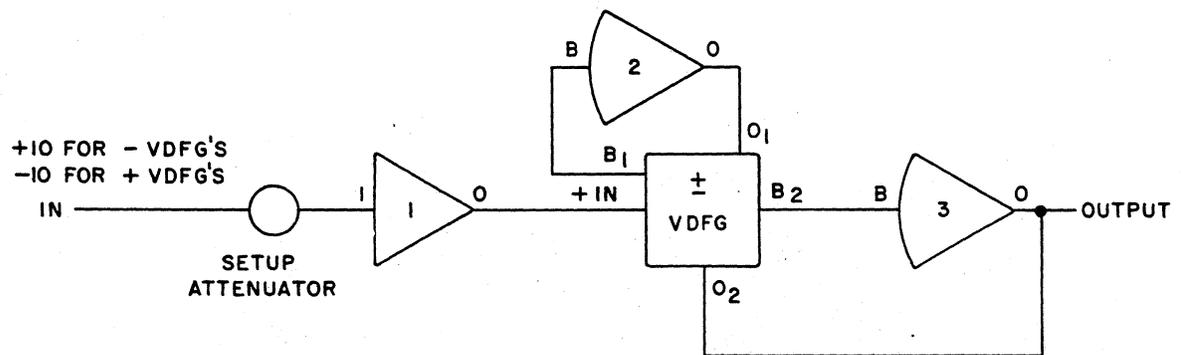

Figure 37. VDFG Test Circuit
(1) Connect the circuit shown in Figure 37. Rotate all potentiometers fully counter-clockwise.
(2) Apply an input of zero volts. Rotate the PARALLAX control. The output should vary from -10 to +10 volts. Set the PARALLAX control for zero volts output.
(3) Apply an input of +1 volt (-1 volt for the 16.154 Unit). Rotate the 1V potentiometer. The output should swing between +2 volts. Set the 1V pot for and output of zero volts.
(1) Patch the circuit of Figure 37. Rotate all BREAKPOINT pots (1 through 10) fully clockwise. Rotate SLOPE POTS 1 through 10 alternately counter-clockwise and clockwise.
(2) With a zero volt input, rotate the PARALLAX control from limit to limit. The output should swing from -10 volts to +10 volts. Set the PARALLAX pot accurately for a zero volt output.
(3) Apply an input of 1 volt (plus for the 16.304; minus for the 16.306). Rotate the CENTRAL SLOPE pot. The output should swing between +2 volts. Apply an input of 8 volts (observing polarity) and set the CENTRAL SLOPE pot for an output of zero volts as accurately as possible.
(4) Apply an input of zero volts and rotate the BREAKPOINT 1 pot fully counter-clockwise. Adjust the PARALLAX control for zero volt output. Apply an input of 1 volt, and observe the output. The voltage should be at least 1 volt (plus or minus, depending on the direction of the slope). Apply an input of zero volts and rotate the SLOPE 1 pot fully in the opposite direction (clockwise, for example, if it had been counter-clockwise). Adjust the PARALLAX pot for an output of zero volts. Apply an input of 1 volt. The output should again be at least 1 volt (with a polarity opposite to that of the previous test). Again rotate the BREAKPOINT 1 pot fully clockwise. Apply zero volts in, and adjust the PARALLAX control for zero volts output.
(5) Apply an input of 1 volt, again observing polarity. Rotate the BREAKPOINT 2 pot counter-clockwise until the output goes +100 millivolts. Apply an input of 2 volts. The output voltage should be at least +1.1 volts. Rotate the SLOPE 2 pot to its opposite limit. The output should again be +1.1 volt (polarity opposite to that of previous reading). Rotate the BREAKPOINT 2 pot fully clockwise.
(6) Repeat Step (5) for 2, 3, ..., 9 volts in and breakpoints 3, 4, ..., 10. In each case, the appropriate BREAKPOINT pot is adjusted for an output of +100 millivolts with a given input. The input is then increased by 1 volt and the output examined. If each network is capable of producing a slope of 1 volt per volt, the output should increase by 1 volt as the input increases by one volt. Difficulty with any of the tests immediately isolates the problem to a given diode network.